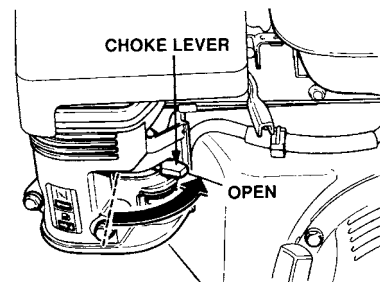

Figure 12. Engine Choke Lever (Open)
5. Place the choke lever (Figure 12) in the **OPEN** position if starting a warm engine or the temperature is warm.
8. Make sure the choke lever is in the **OPEN** position (Figure 12) before operating the power buggy. Before the buggy is placed into operation, run the engine for several minutes. Check for fuel leaks, and noises that would associate with a loose guard or cover.
3. Turn the ignition switch (Figure 12) to the **OFF** position.